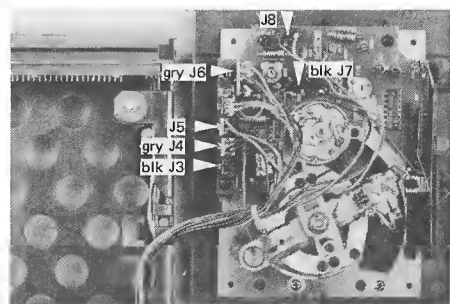

Fig. 2.5
- Detach the six connectors (see Fig. 2.5).